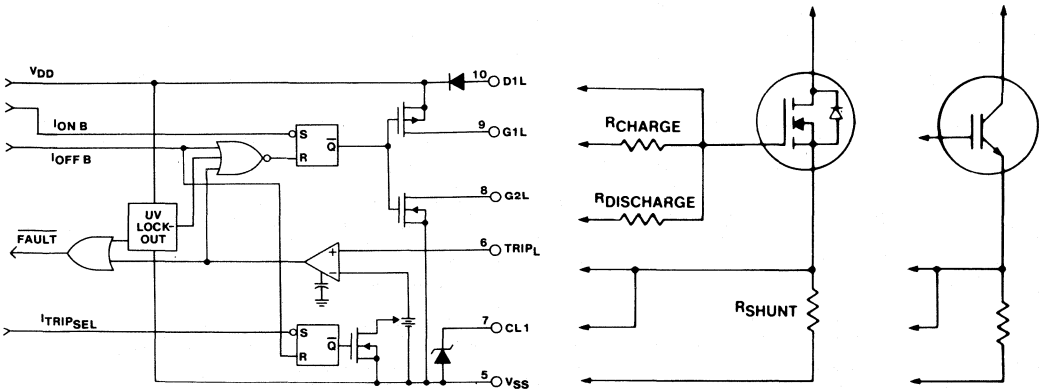

FIGURE 4. POWER-OUTPUT SECTION INTERFACING WITH NONCURRENT-SENSING MOSFET OR IGT.
A nominal 100mVDC comparator provides overcurrent (OC) protection when used with either current-sensing IGTs or MOSFETS. OC can also be implemented by using low-impedance shunts with noncurrent-sensing power-output devices, Figure 4.
Clamp CL1 in Figure 4 provides overvoltage protection for current-sensing structures during switching intervals, and protects the comparator from any voltage transients due to external lead inductances. To avoid nuisance OC trips caused by reverse-recovery current during turn-on transitions, the comparator's output is blanked for approximately 3-microseconds.